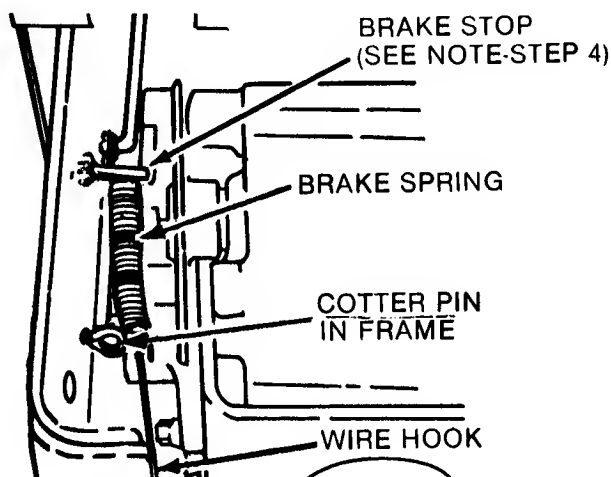
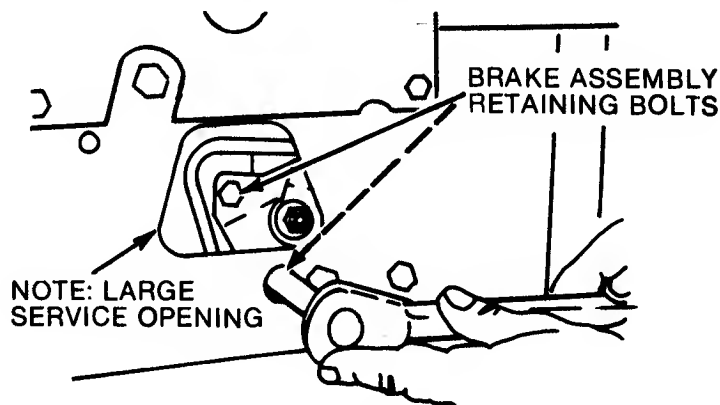

FIG. 3.1--BRAKE SPRING & STOP DETAIL
FIG. 3.2--BRAKE ASSEMBLY REMOVAL
2. Disconnect the brake spring from the cotter pin in tractor frame (Figure 3.1).
3. Remove the two bolts that hold the brake assembly to the transmission (Figure 3.2).
NOTE: if the brake disc has to be replaced, it will be necessary to saw 3/8" off the end of the brake stop stud which is welded to the frame directly behind the brake actuating arm as shown in figure 3.1. The brake assembly also has to be removed. This requires the large access hole shown in figure 3.2.
8. Reconnect the brake spring to the cotter pin in tractor frame (Figure 3.1).